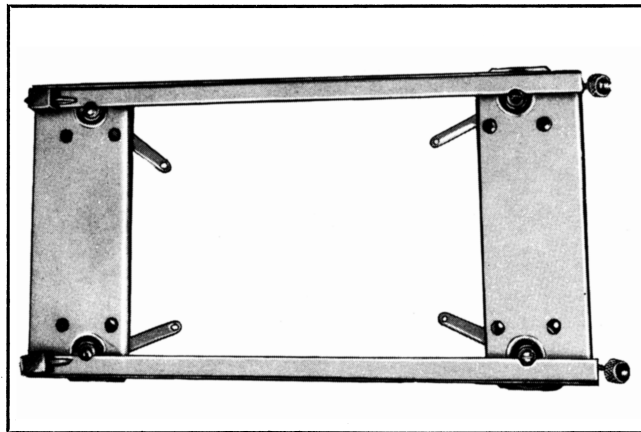

Figure 2-2. Mounting Base MT-171/U
a. Mount Panoramic Adapter AN/APA-10 on a standard Mounting Base MT-171/U and safety wire. (See fig. 2-2.) The holes for mounting are drilled as shown in figure 8-1. Mount the unit so that the ventilating louvres on this unit and associated receivers are not obstructed, and so panel controls are accessible. The knurled locking nuts on the mounting base will be towards the front of the unit. If the unit is mounted so that a ground is not obtained through the shock-mount grounding strip, a ground lead must be provided.